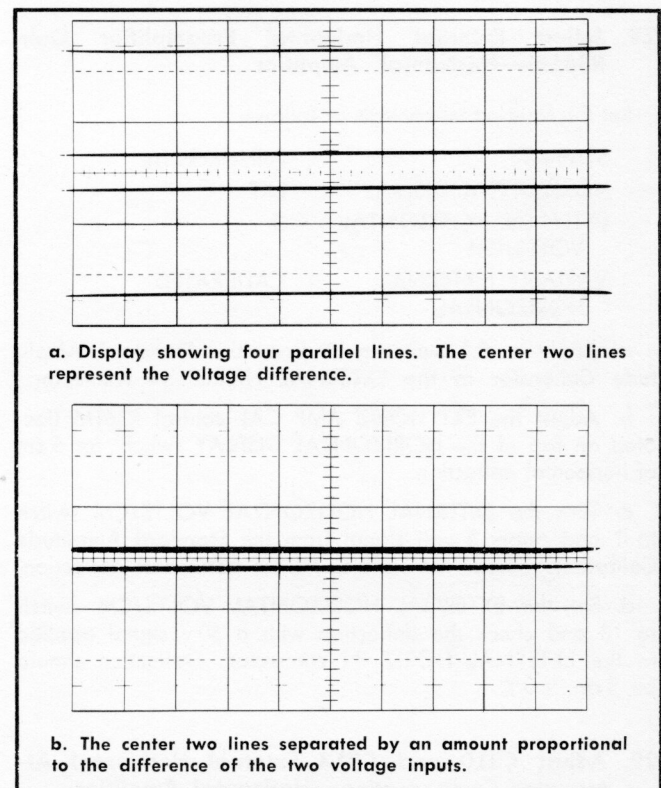

Fig. 6-11. Display of differential voltage measurement on test oscilloscope.
c. Set the Standard Amplitude Calibrator and the Type 533/533A AMPLITUDE CALIBRATOR switch to 2 volts. There should now be 3 or 4 parallel traces on the Test oscilloscope. The center trace or traces show the difference in amplitude of the two signals which are applied to inputs A and B of the Differential Amplifier (Fig. 6-11).